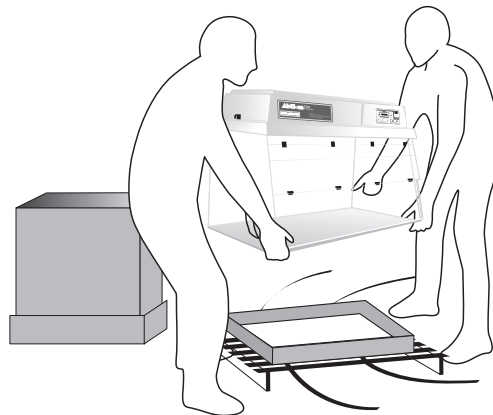

Figure 2, Lifting the workstation properly
- 3) With the help of a co-worker, lift the workstation out of the bottom tray of the box. Make sure to lift from the bottom of the workstation. See figure 2.